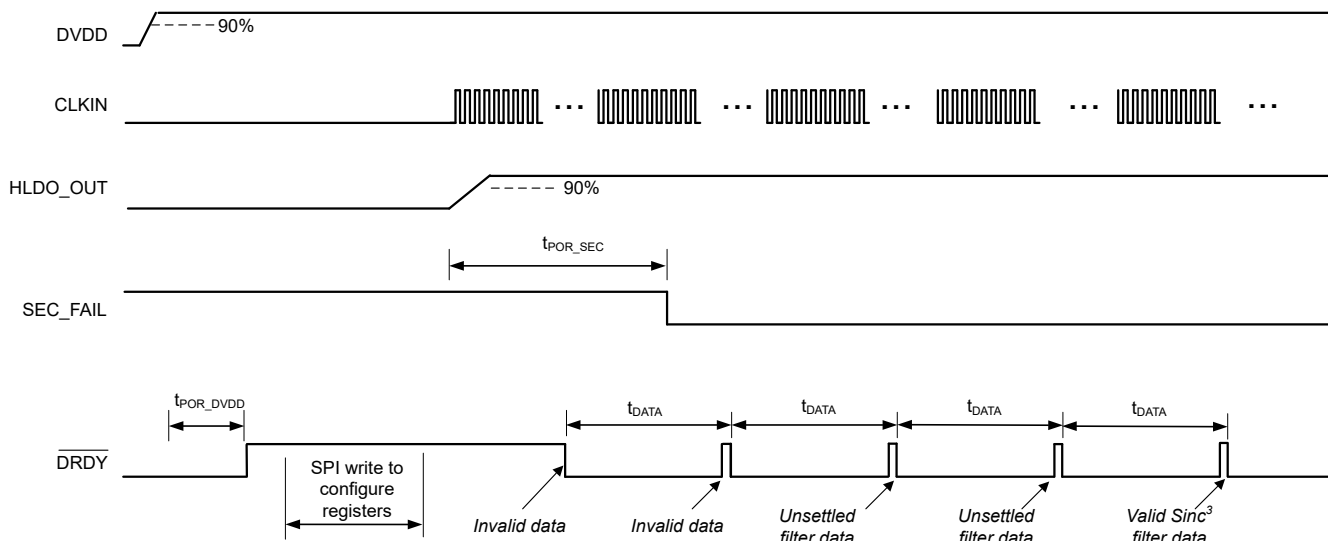
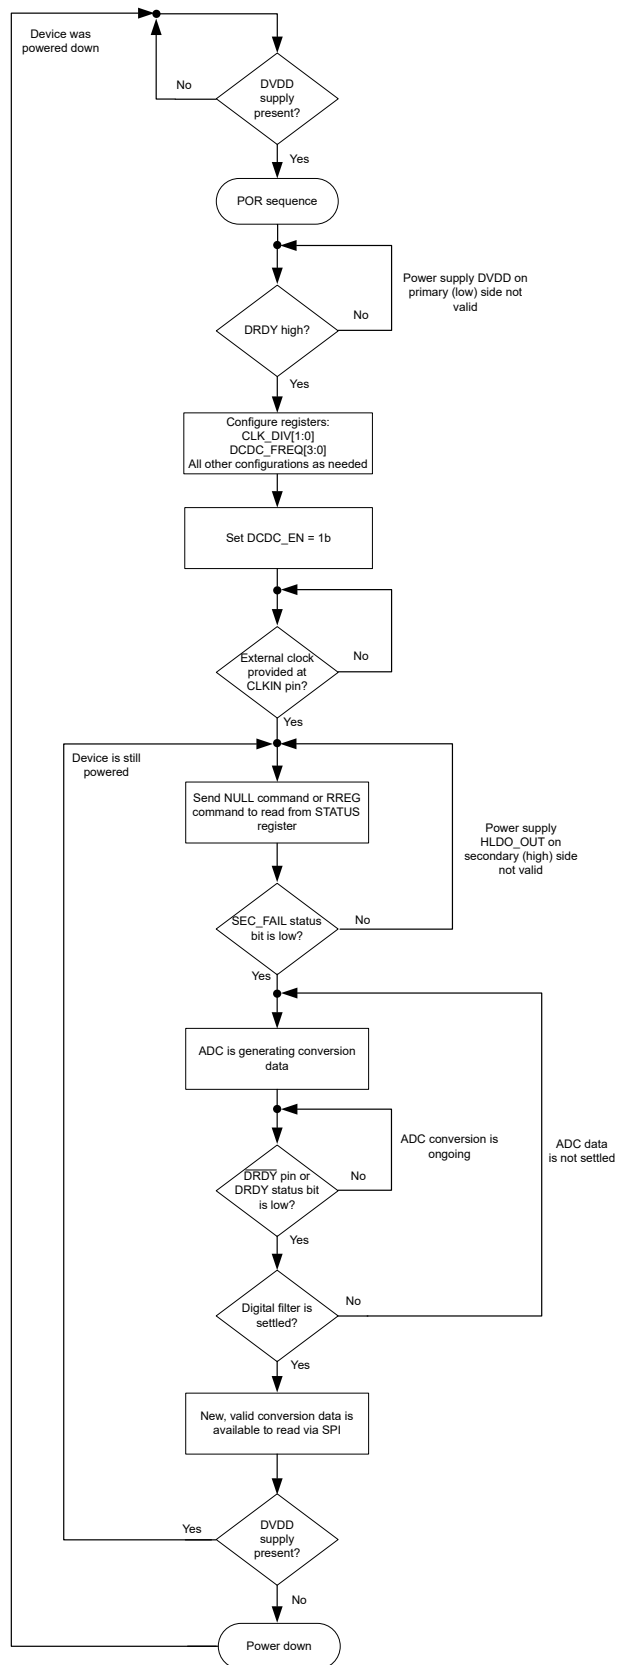

Figure 8-18. Start-Up Behavior at Power-Up and Settling Times, OSR = 1024
Figure 8-19. Flow Diagram for Start-Up Procedure at Power-Up
A recommended procedure for powering up the AMC131M03 is described in this section. Figure 8-18 depicts a timing diagram for the device behavior when this recommended sequence is used. Figure 8-19 provides a flow diagram that displays the recommended sequence in a graphical form.
- The high-to-low transition of $\overline{\text{DRDY}}$ indicates that new conversion data are available. As given in Figure 8-18, ADC data are only valid if the SEC_FAIL reads 0b during the conversion period. The first two conversion results shown in Figure 8-18, represent invalid data.
- When the ADC generates valid data, the digital filter must settle, as described in the SINC³ and SINC³ + SINC¹ Filter section. Two subsequent conversion results illustrated in Figure 8-18 are unsettled (assuming OSR equals 1024), and the last conversion result shown provides valid and settled data.
In Figure 8-18, $t_{\text{POR\_SEC}}$ is the time from enabling the DC/DC converter to the first falling edge of the SEC_FAIL bit, which indicates that the secondary power supply at the HLDO_OUT pin is stable. $t_{\text{POR\_DVDD}}$ is the time from DVDD supply at 90% to $\overline{\text{DRDY}}$ first rising edge.